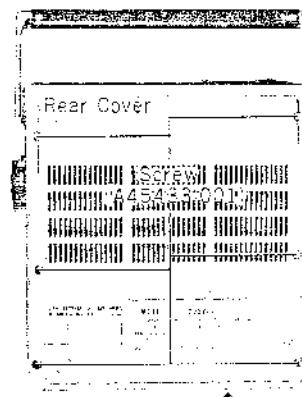

Fig. 5
- Unfasten 6 screws fastening rear cover indicated in Fig. 5.